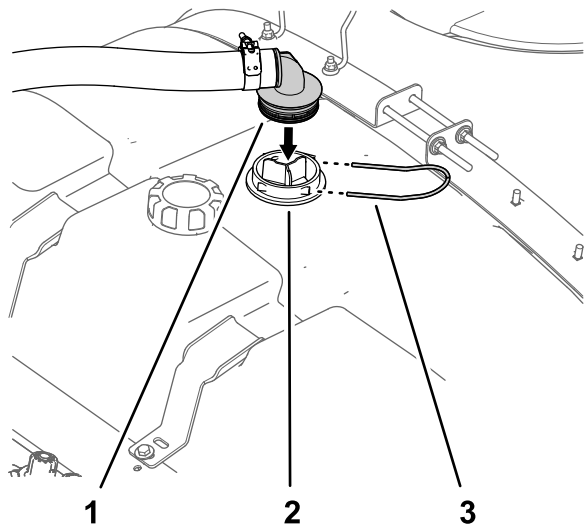

Figure 15
- 1. Align the 90° barbed fitting of the supply hose with the housing for the suction screen (Figure 15).
- 2. Secure the 90° barbed fitting to the housing (Figure 15) with the retainer fork that you removed in step 4 of Preparing the Spray Tank (page 7).